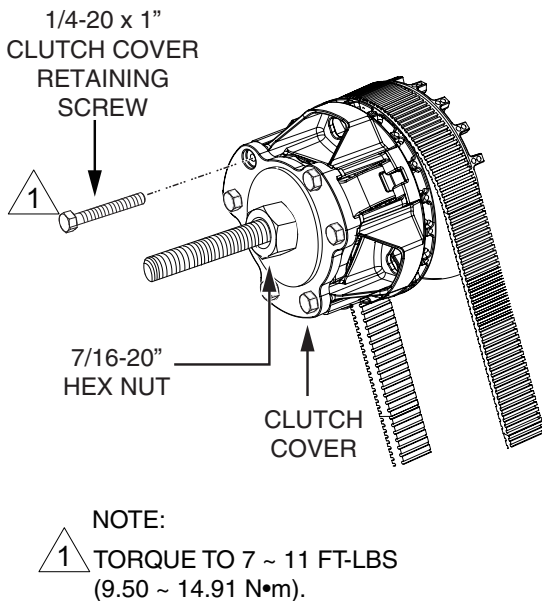

Figure 11. Clutch Cover Reassembly
2. Using a 5/8" wrench, turn the 7/16-20" hex nut clockwise to compress the spring so the clutch cover meets the clutch body as shown in Figure 11.
3. Using a 3/8" socket, tighten the six 1/4-20 x 1" clutch cover retaining screws in a star pattern as shown in Figure 11.
4. Torque the six 1/4-20 x 1" clutch cover retaining screws to 7~11 ft-lbs (9.50~14.91 N·m) as shown in Figure 11.